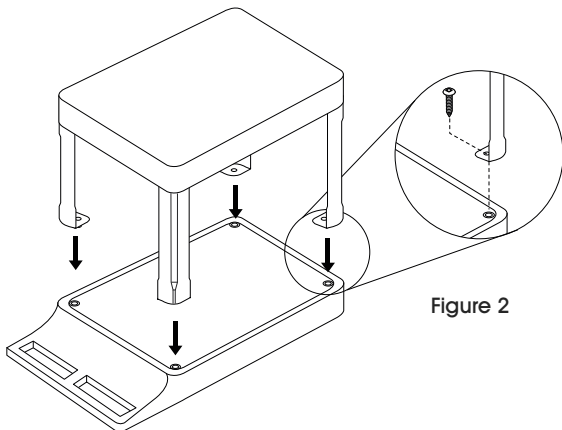

Figure 2
2. Flip bottom shelf over and screw legs into underside of top shelf using four screws. (See Figure 2)